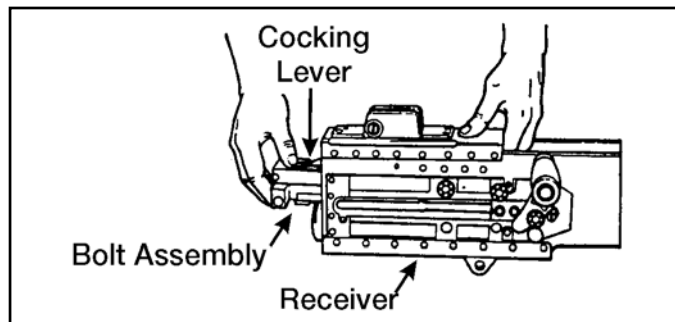

Figure 071-022-0001-38. Installation of the bolt assembly
(19) If you cannot install the bolt this way, remove the barrel extension and buffer assembly from the receiver. Install the bolt assembly into the barrel extension and buffer assembly, then install them in the receiver (figure 071-022-0001-39).